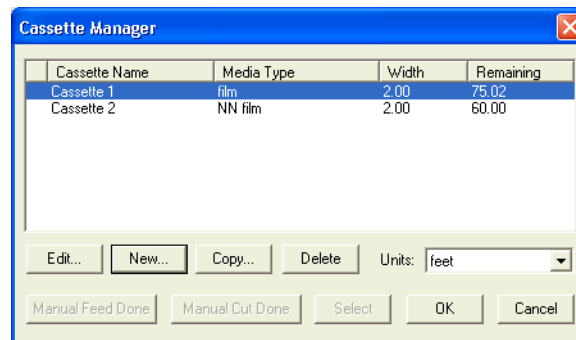

Figure 9.4 Cassette Manager dialog box
Before processing any jobs, you need to tell the RIP about the cassettes you are using and give details of the media currently in each cassette. You do this from the Cassette Manager dialog box. Click the **Cassette Manager** button in the Edit Page Setup dialog box or choose **Output > Cassette Manager** to open the Cassette Manager dialog box, as shown in Figure 9.4.
- If you perform a manual operation by using controls on the output device, you must inform the RIP. Display the Cassette Manager and click the button **Manual Cut Done** or **Manual Feed Done** whenever you perform the corresponding manual operation. See Figure 9.4, page 256, and the following description of the buttons.